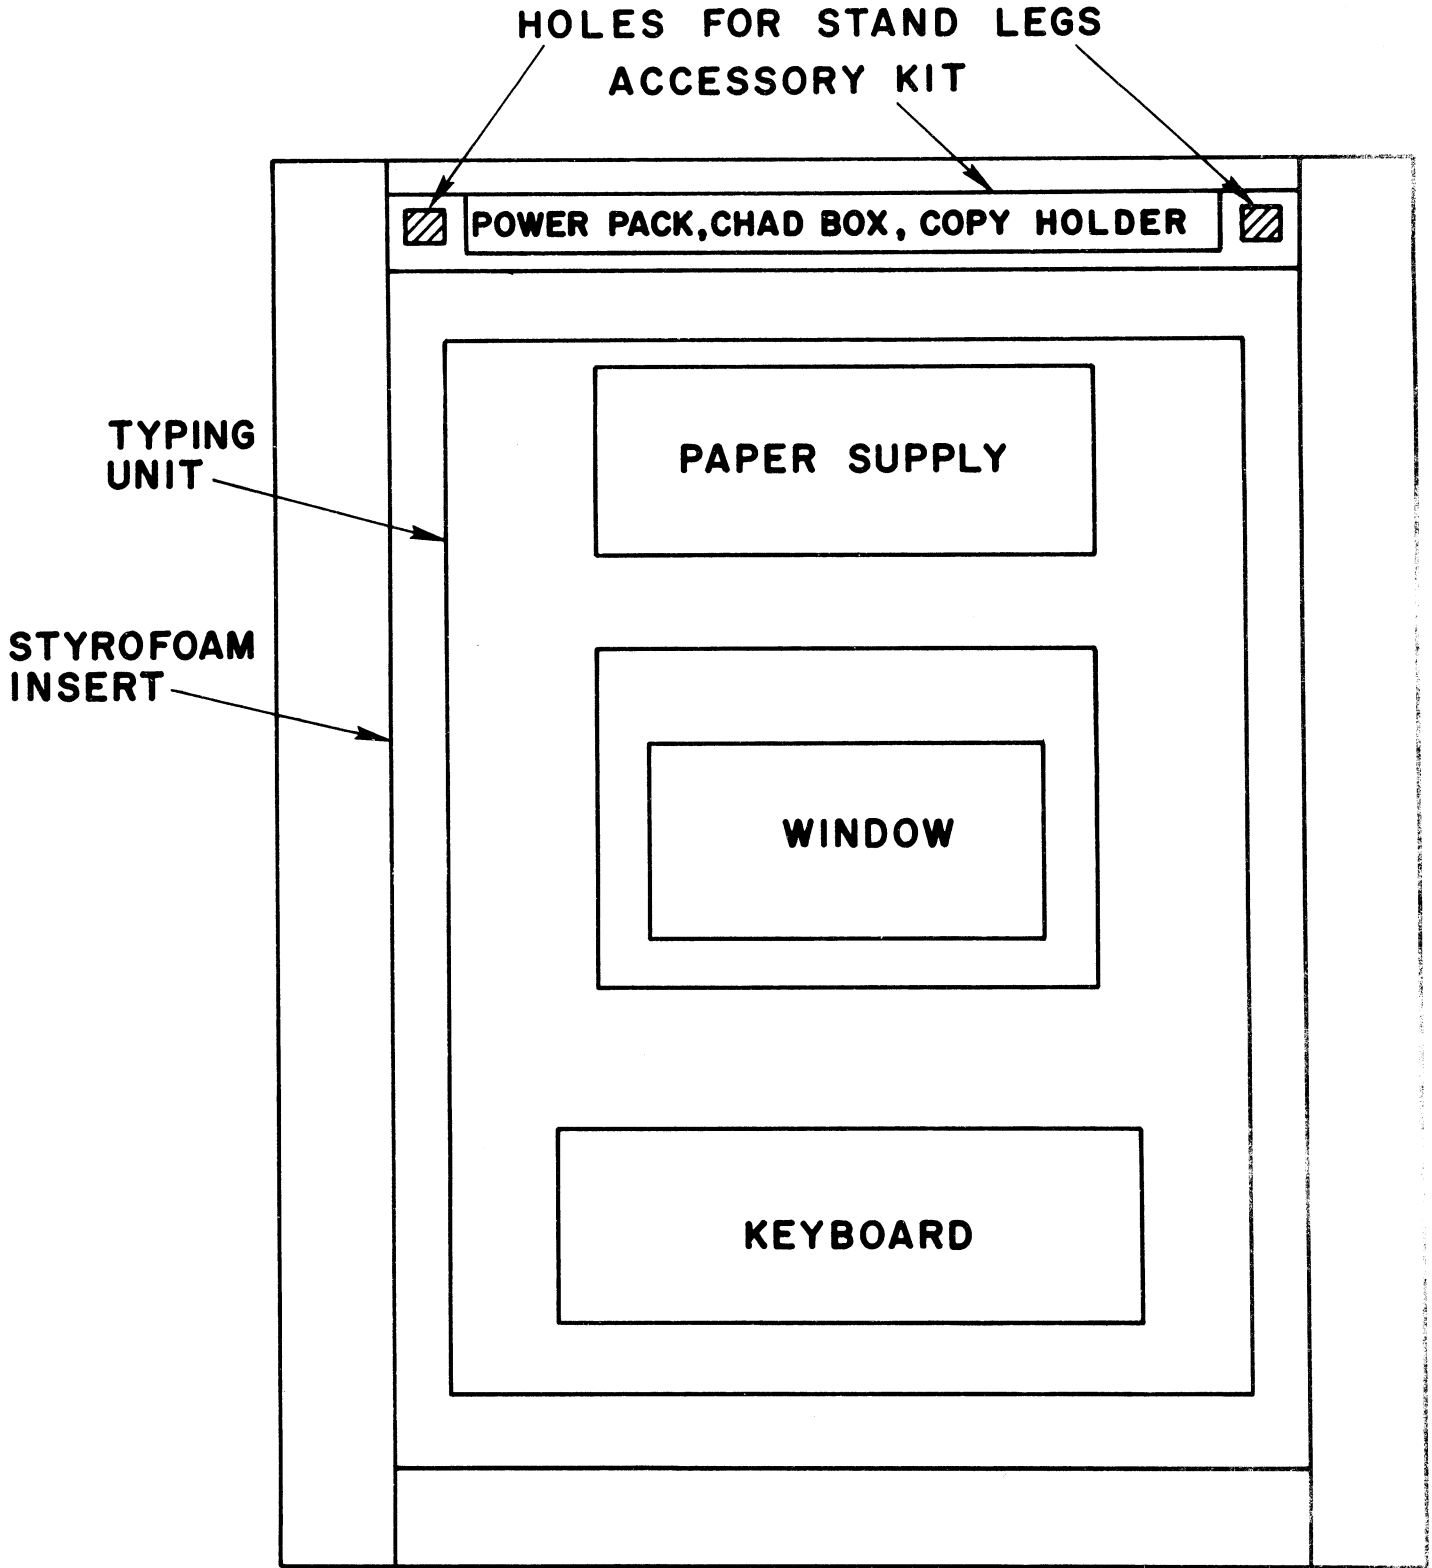

Figure 2-3. Location of Teletype Typing Unit in Carton
- d) Remove cardboard insets, accessory kit, and Typing Unit. (See Figure 2-3.) Typing Unit is mounted on a past board shipping pallet by seven screws.